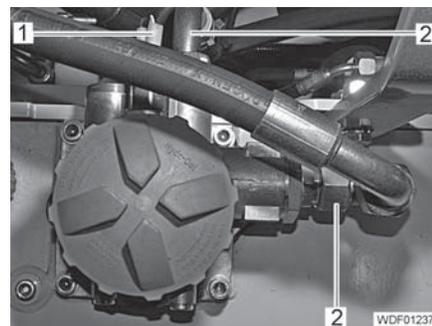

Fig. 221 Connections on the topside
- Remove the 2 connectors (Fig. 221,1) from the pressure switch.
- Unscrew and close off the hydraulic lines (Fig. 221,2).
- Screw the hydraulic lines (Fig. 221,2) onto the return filter and tighten.
- Connect the 2 connectors (Fig. 221,1) to the pressure switch.